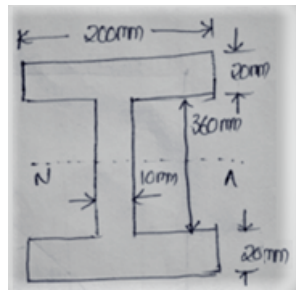

Figure 2
- (b) A rolled steel joist of I-section has the dimensions as shown in figure 2. This beam of I-section carries UDL of 40 kN/m over a span of 10 m, calculate the maximum stress produced due to bending. [7M]